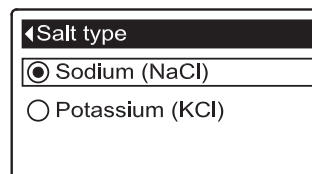

FIG. 32
5. Press the SELECT (O) button to display the Salt type menu (See Figure 32).
6. If the desired salt type already has a black dot next to it (See Figure 32), go to Step 7. Otherwise, press the conditioner/refiner's DOWN (▼) or UP (▲) buttons to scroll to the other salt type, then press SELECT (O) to choose it.
7. Press the SELECT (O) button. The display will go back to the Salt settings menu.